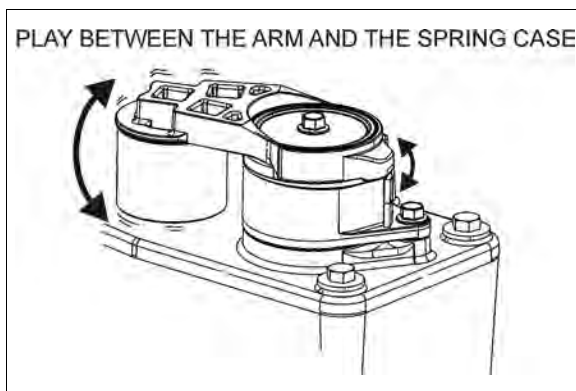

FIGURE 25: CHECKING BUSHING WEAR
2. Pry the automatic belt tensioner arm and check for a play between the arm and the spring case (**FIGURE 25**).